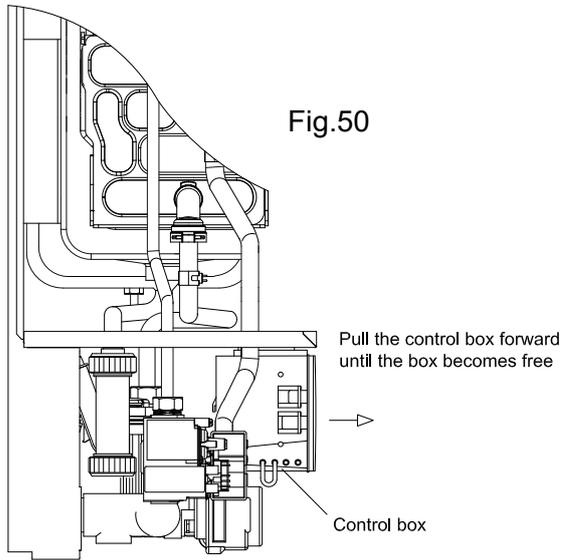

Fig.50
8.22 TO REMOVE PANEL CONTROL BOX (Fig. 50,51,52).